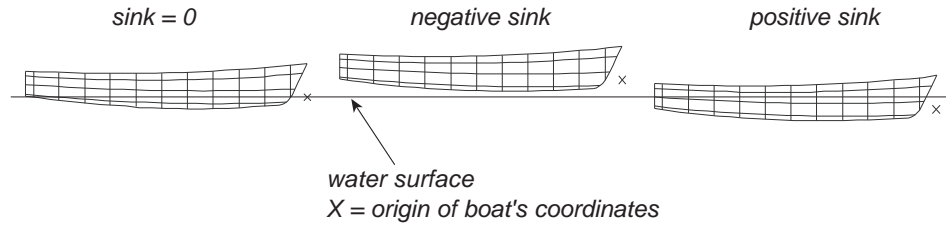

Fig. 3 Sink is the vertical position of the origin of model coordinates relative to the water surface.
**Sink:** Vertical position of origin of model coordinates relative to water surface; positive sink is downward (Fig. 3). Note: this is opposite to "Rise" used in other AeroHydro programs. Startup default is 0.